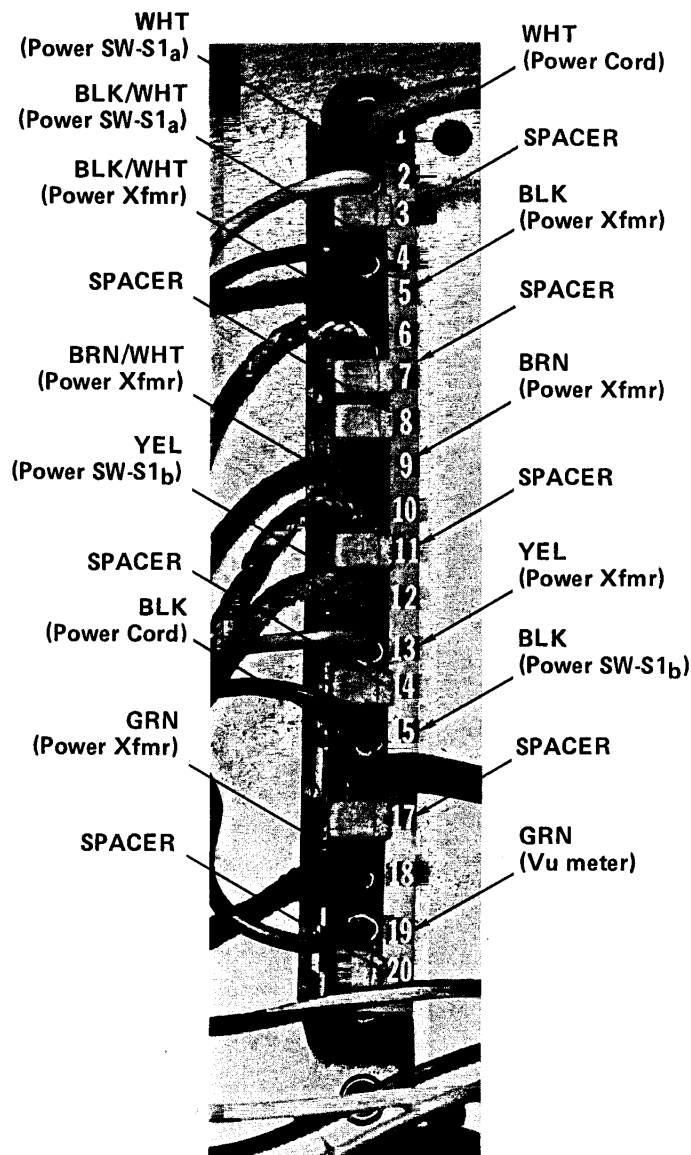

FIGURE 8
2. To convert from 120 V AC to 240 V AC, remove only the following wires, shown in Figure 8 and Table 2: